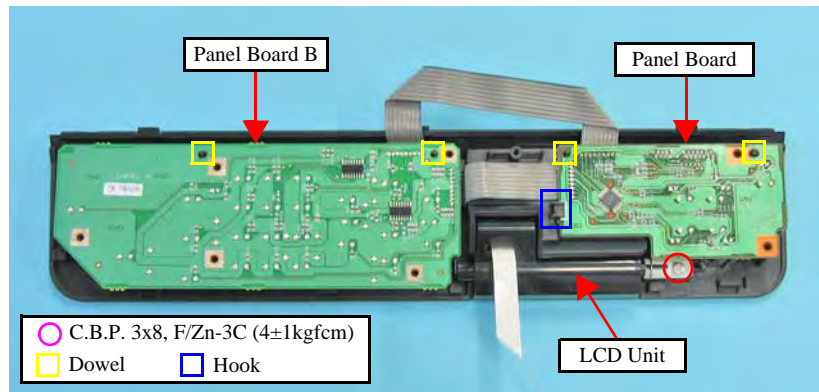

Figure 4-25. Removing the Panel Board/Panel Board B and LCD Unit
- When installing the Panel Board and Panel Board B, make sure to match the positioning holes (x4) with their positioning pins of the Panel Cover as shown in Figure. 4-25.